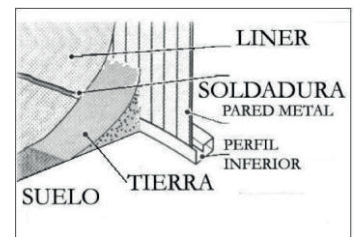

Fig. 24.
- e) When installing the protection profile (PL), Fig. 24., remove all the clamping brackets located above the casing and along the perimeter of the pool.